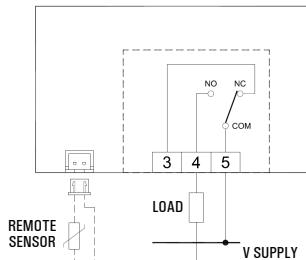

Fig. 7
- 5** Make the electrical wirings following the connection diagrams of Fig. 7 and 8.
The outputs, terminals 3, 4 and 5, are tension-free and insulated with double insulation from the other parts of the thermostat. So, it is possible to power an high voltage load ($230V \sim$), as can be seen in Fig. 7 and 8.